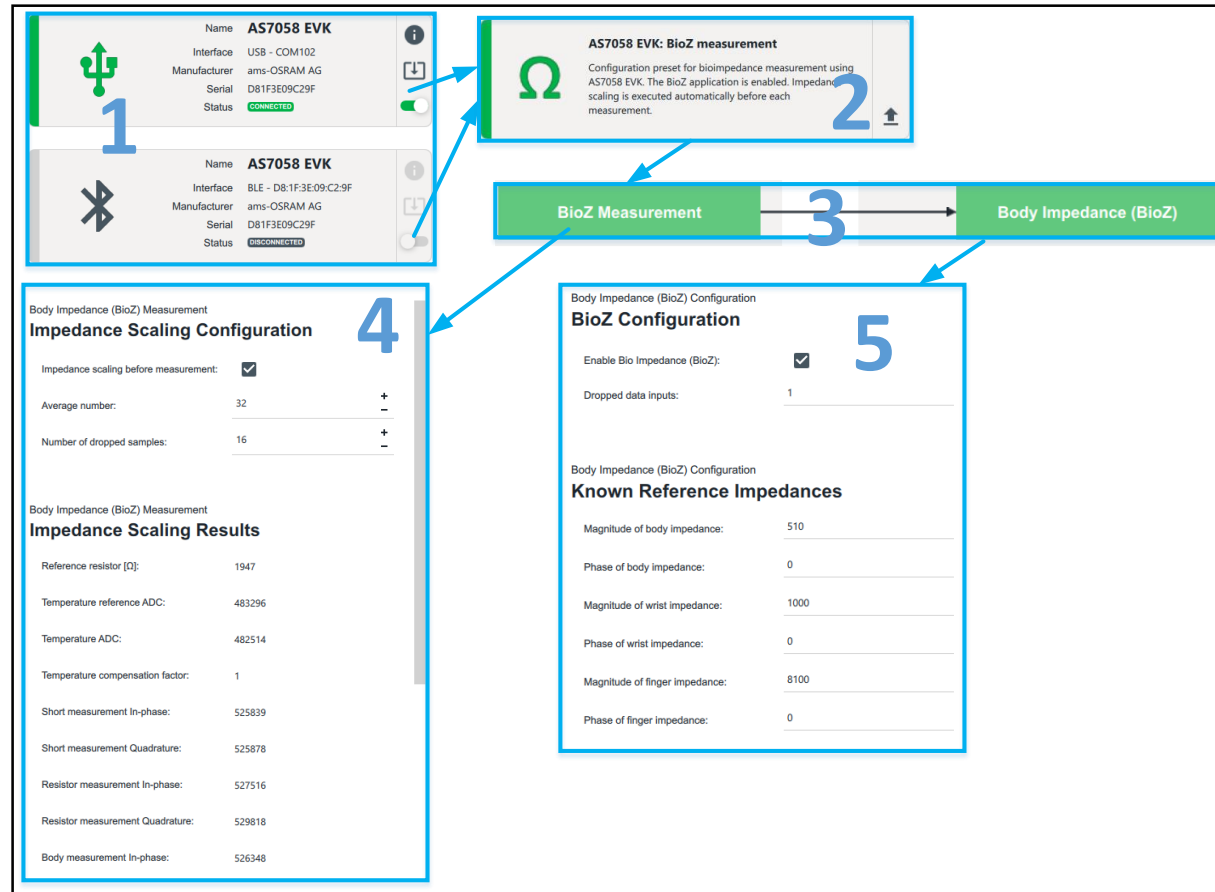

Fig. 19: Known Reference Impedances & Impedance Scaling Result blocks for BioZ Configuration
- Based on the AS7058EVK, typical values of the impedance scaling results are already entered in the "Impedance Scaling Results" block, which is labeled in the "BioZ Measurement" block in Fig. 19 as number 4.
- ams-OSRAM provides five sample boards (one for calibration and the other four for testing). Typical magnitude and Phase values of the reference board are already entered in the "Known reference Impedance" block, as shown in Fig. 19 as number 5 in the "Body Impedance" block.